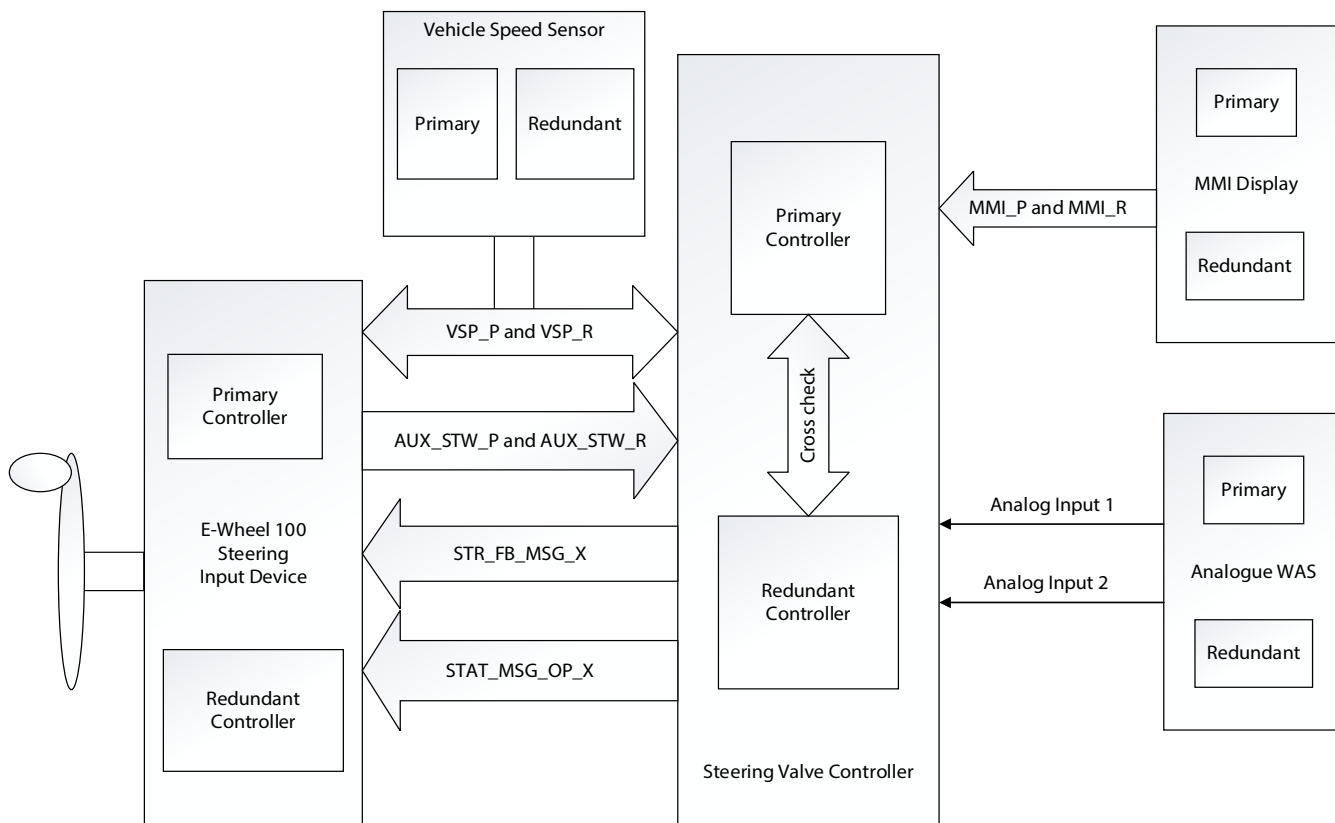
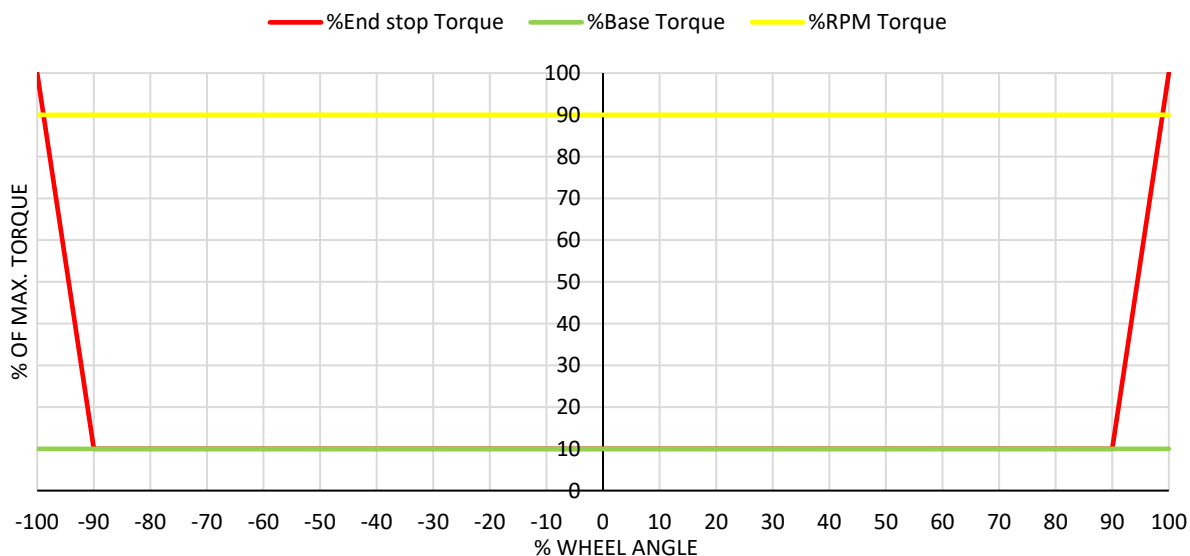
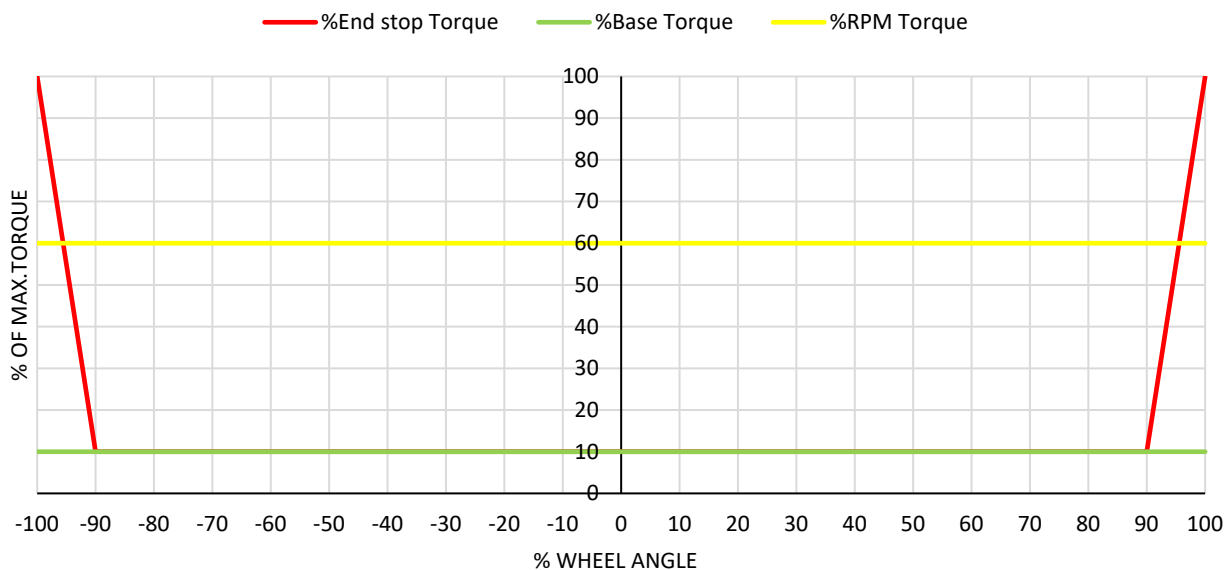

Figure 4 Block diagram for e-Wheel with steering valve controller
Figure 5 Torque Control Algorithms for 5 Nm
Figure 6 Torque Control Algorithms for 2 Nm
The operation between e-Wheel and steering controller in the steering system with relevant messages from each component is simplified in figure 4. In terms of the primary purpose of e-Wheel, is giving steering inputs (steering angle and steering speed); whereas the steering controller is defining the steering response based on the data available from all components in steering sub-system. The messages from each component in figure 4, are as per the PVED-CLS communication protocol, specified with the respective annotations.
The control algorithms in e-Wheel, are offered as standard variants with the torque values shown as per figure 5 and figure 6.
In above figures 5 and 6 respectively,
- Figure 5 represents for e-Wheel with 5 Nm as 100 % of the maximum operating torque and figure 6 represents for e-Wheel with 2 Nm as 100 % of the maximum operating torque.
depending upon the allowable RPM, at corresponding steering lock to lock ratio from steering controller. Figure 5 shows, the maximum RPM torque for 5Nm is defined for 90 % of the maximum operating torque; whereas figure 6 shows RPM torque for 2Nm is defined for 60 % of the maximum operating torque.
Wheel angle sensors close the feedback loop with the steering controller, ensuring the vehicle wheels' match steering commands. During the operation, steering controller transmits the estimated wheel angle values as a feedback message over CAN bus to the e-Wheel, refer Figure 4. Based on this message, e-Wheel detects the wheel angle values and determines the torque force feedback. As shown in figure 5 and figure 6, the End-Stop control algorithm increases linearly from 90 % to 100 % wheel angles and provides maximum operating torque (torque of 5Nm or 2Nm based on the chosen e-Wheel variant) at 100 % wheel angle. Thus, operator experiences the End- Stop torque feedback, on vehicle wheels reaching the maximum wheel angle limits. As soon as the operator steers away from the end stop towards neutral, the torque drops to the base torque control, as explained below.
The background torque for normal steering, excluding end-stop conditions, is the base torque control. This torque is smooth and persistent through-out steering at different wheel angles, as shown in figure 5 and figure 6, as 10 % of the maximum operating torque.